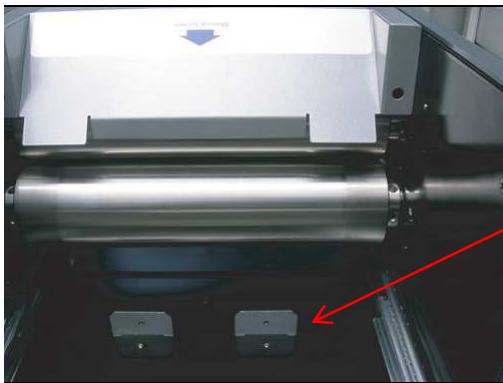

Fig 1
- Remove the Jam release tool located as shown in **Fig 1**
- Once you have removed the jammed document replace the jam release tool into its holding location see **Fig 1** and push the machine together.